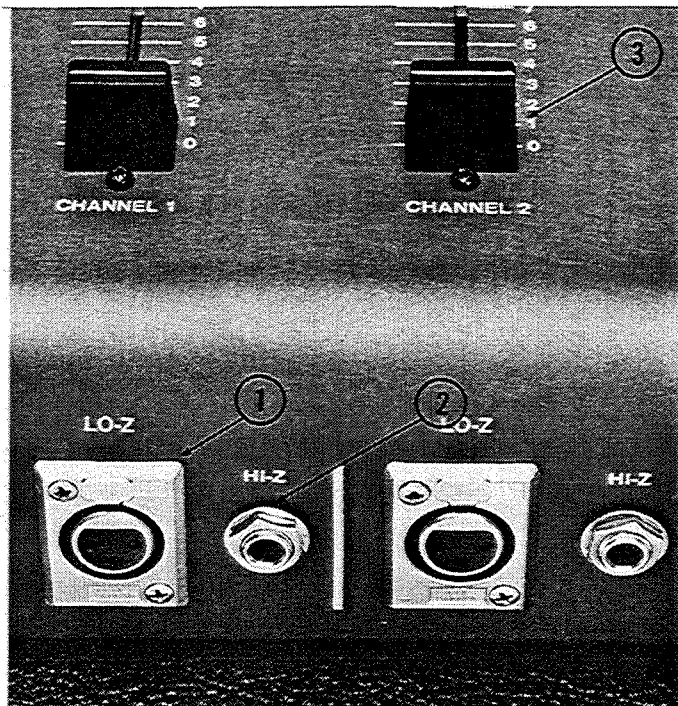
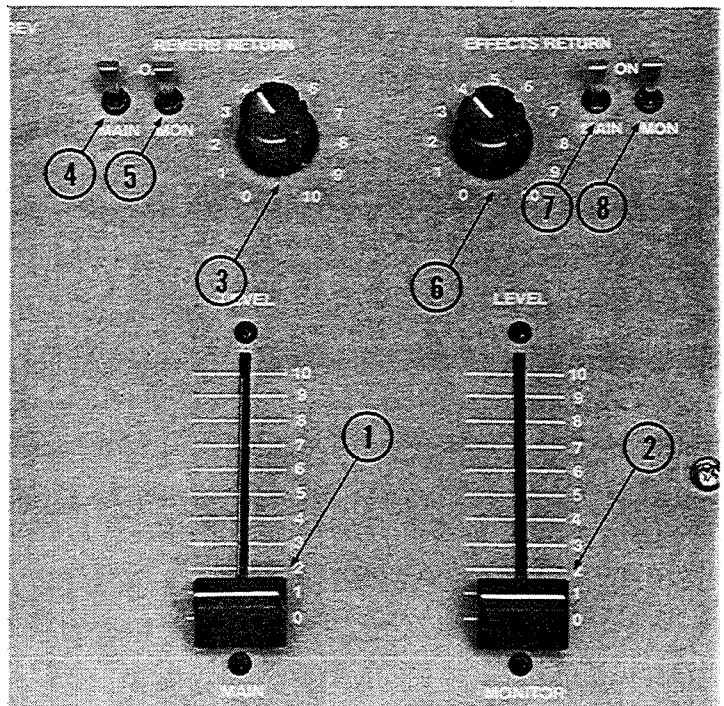

FIGURE 5 — Pre-Amp Jacks and Level Controls
FIGURE 6 — Master Section Level Controls
### Channel Level Control (Fig. 5 - Item 3)
### Main Channel Master Level Control (Fig. 6 - Item 1)
### Monitor Channel Master Level Control (Fig. 6 - Item 2)
### Reverb Return Control (Fig. 6 - Item 3)
### Main Channel Reverb On/Off Switch (Fig. 6 - Item 4)
#### On/Off Switch (Fig. 6 - Item 5)
#### Effects Return Control (Fig. 6 - Item 6)
#### On/Off Switch (Fig. 6 - Item 7)
#### On/Off Switch (Fig. 6 - Item 8)
Each channel is provided with a three pin low impedance (Lo-Z) microphone connector (Fig. 5 - Item 1) designed to be used with a low impedance microphone in the range of 50 to 250 ohms. The input is unbalanced and pin 3 is the signal input pin.
A high impedance (Hi-Z) phone jack is also provided for each channel (Fig. 5 - Item 2). This jack allows use of a high impedance (50K to 150K
High impedance microphones plug into the Hi-Z phone jacks (Fig. 5 - Item 2).
Low impedance microphones plug into the Lo-Z 3 pin connectors (Fig. 5 Item 1).
1. Set all Channel, Main, and Monitor Level controls ("faders") to their minimal positions (Fig. 5.- Item 3) (Fig. 6 - Item 1 and 2).
5. Effects and Reverb switches should be "off" (Fig. 6 - Items 4, 5, 7 and 8).
7. Set the Main Level control (Fig. 6 - Item 1) to "4" or "5".